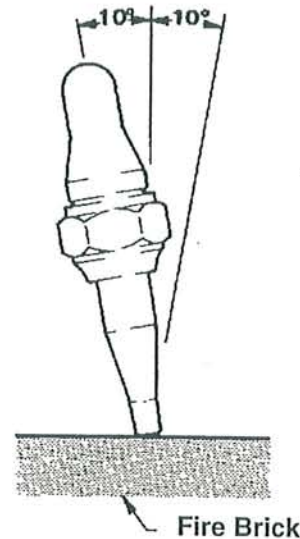

Figure 5: Flame Testing the Torch
19. Place the tip on a fire brick at approximately 10° from the vertical (see Figure 5). Depress the cutting oxygen lever. Rock the torch from side to side for 5-8 seconds. The torch will "pop" during this operation.